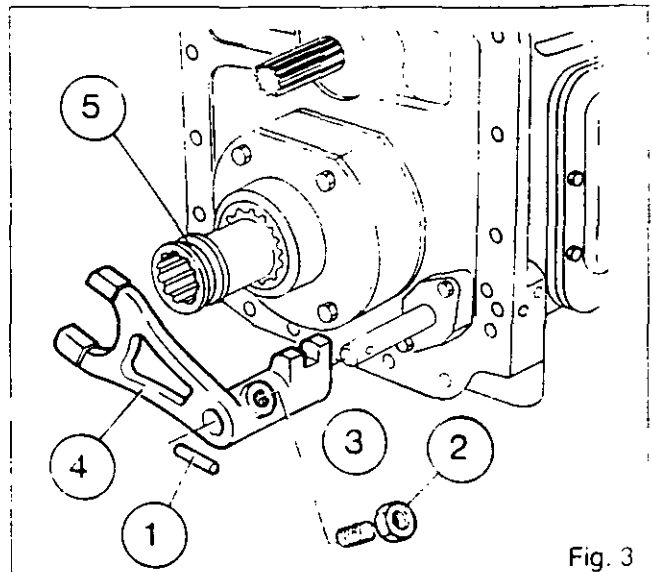

Fig. 3
Remove pin (1), locknut (2), adjustable locking screw (3), and fork (4) together with sleeve (5) (Fig.3).